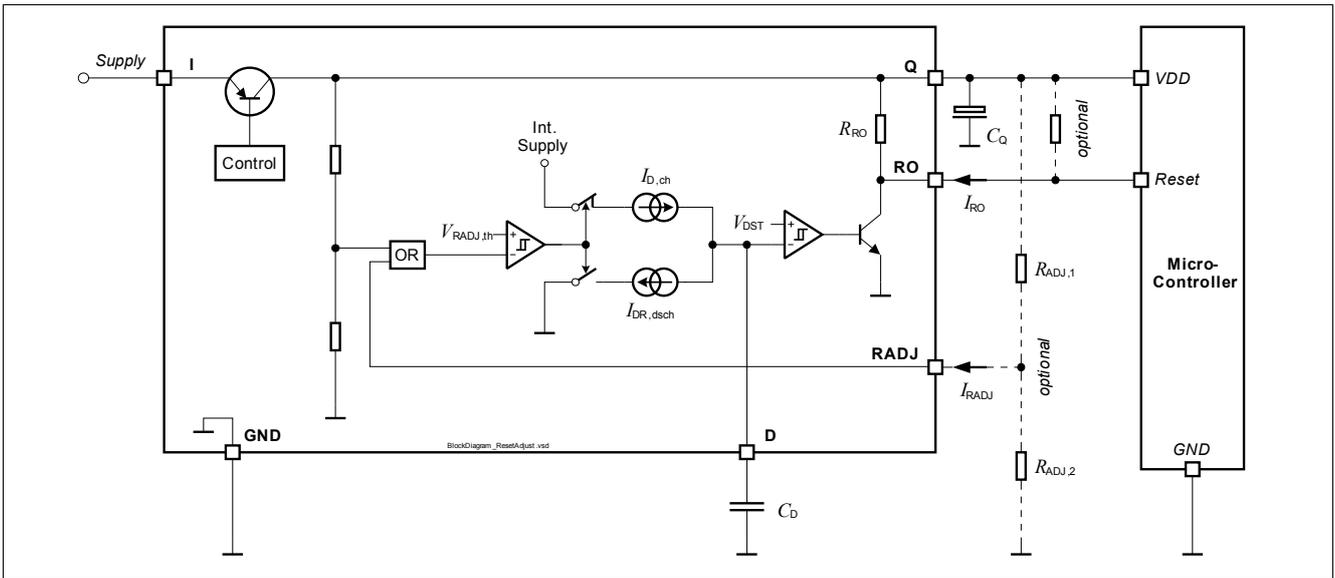

Figure 7 Block diagram reset circuit
- $R_{ADJ,1}$, $R_{ADJ,2}$: Resistors of the external voltage divider, see Figure 7.
$V_I = 13.5\text{ V}$, $T_j = -40^\circ\text{C}$ to $+150^\circ\text{C}$, all voltages with respect to ground, direction of currents as shown in **Figure 7** (unless otherwise specified)